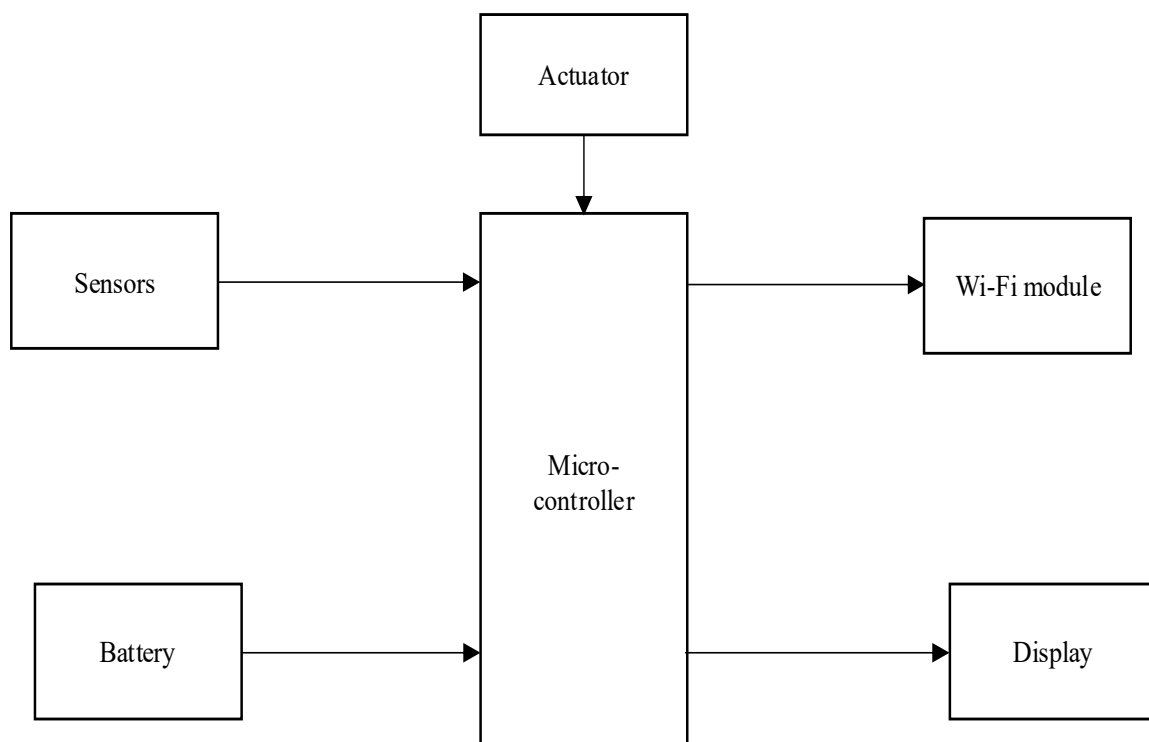

Figure 2. Suggested hardware section.
- *Hardware selection:* The Hardware section is shown in Figure 2.